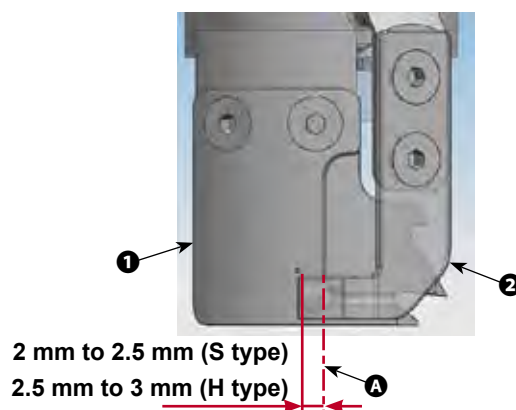

Fig.3
| <p>4) Adjusting the knife unit</p> <p>[1] For checking the knife unit</p> <ol style="list-style-type: none"> <li>1. Check to make sure that the power switch is in the OFF state.Remove the gauge (presser foot, throat plate and feed dog) from around the needle.</li> <li>2. In the standby state of loop spreading knife ❶, the distance from center of needle ❶ to the tip of loop spreading knife ❶ is 5.5 to 6.5 mm. (Refer to Fig.1-a)</li> <li>3. At the time of 2, the thread trimming drive arm ❷ gets contact with the screw ❸.When there is a gap, loosen the screw ❸ and make the thread trimming drive arm ❷ keep in contact with the screw ❸ to tighten the screw ❸. (Refer to the Fig. 1-b.)</li> <li>4. The purpose of adjustment of the aligning position of loop spreading knife ❶ and thread trimming knife ❷ (far end of the hole in loop spreading knife ❶ and the tip of thread trimming knife ❷) is to align the aforementioned aligning position with center of needle ❶. (Refer to Fig.2)</li> </ol> <p>* There is seldom an actual margin of adjustment because it is used for the creak of the Phillips -head screw.</p> <ol style="list-style-type: none"> <li>5. The amount of engagement between loop spreading knife ❶ and thread trimming knife ❷ is S type : <math>2.0 \pm 2.5</math> mm, H type : 2.5 to 3.0 mm as measured from center of needle ❶. (Refer to Fig.3)</li> </ol> | <ul style="list-style-type: none"> <li>○ Be aware that, if the distance between loop spreading knife ❶ and center of needle ❶ is reduced, thread loop is likely to interfere with loop spreading knife ❶.</li> </ul> <p>* Refer to "3.-(11)-4)-[2]. Adjustment of the knife unit" for how to adjust it.</p> <ul style="list-style-type: none"> <li>○ Be aware that, if the aligning position of the loop spreading knife and the thread trimming knife does not align with center of needle ❶, the length of thread remaining on the material after thread trimming will be longer.</li> <li>○ Be aware that, if the amount of engagement between them is insufficient, faulty thread trimming can occur.Refer to "3.-(11)-4)-[2]. Adjustment of the knife unit" for how to adjust it.</li> <li>○ The needle thread may be trimmed excessively short in the case thread which is likely to cause unstable thread loop formation is used or thread trimming is carried out at a position where there is no material.</li> </ul> |
(11) Adjusting the thread trimming unit